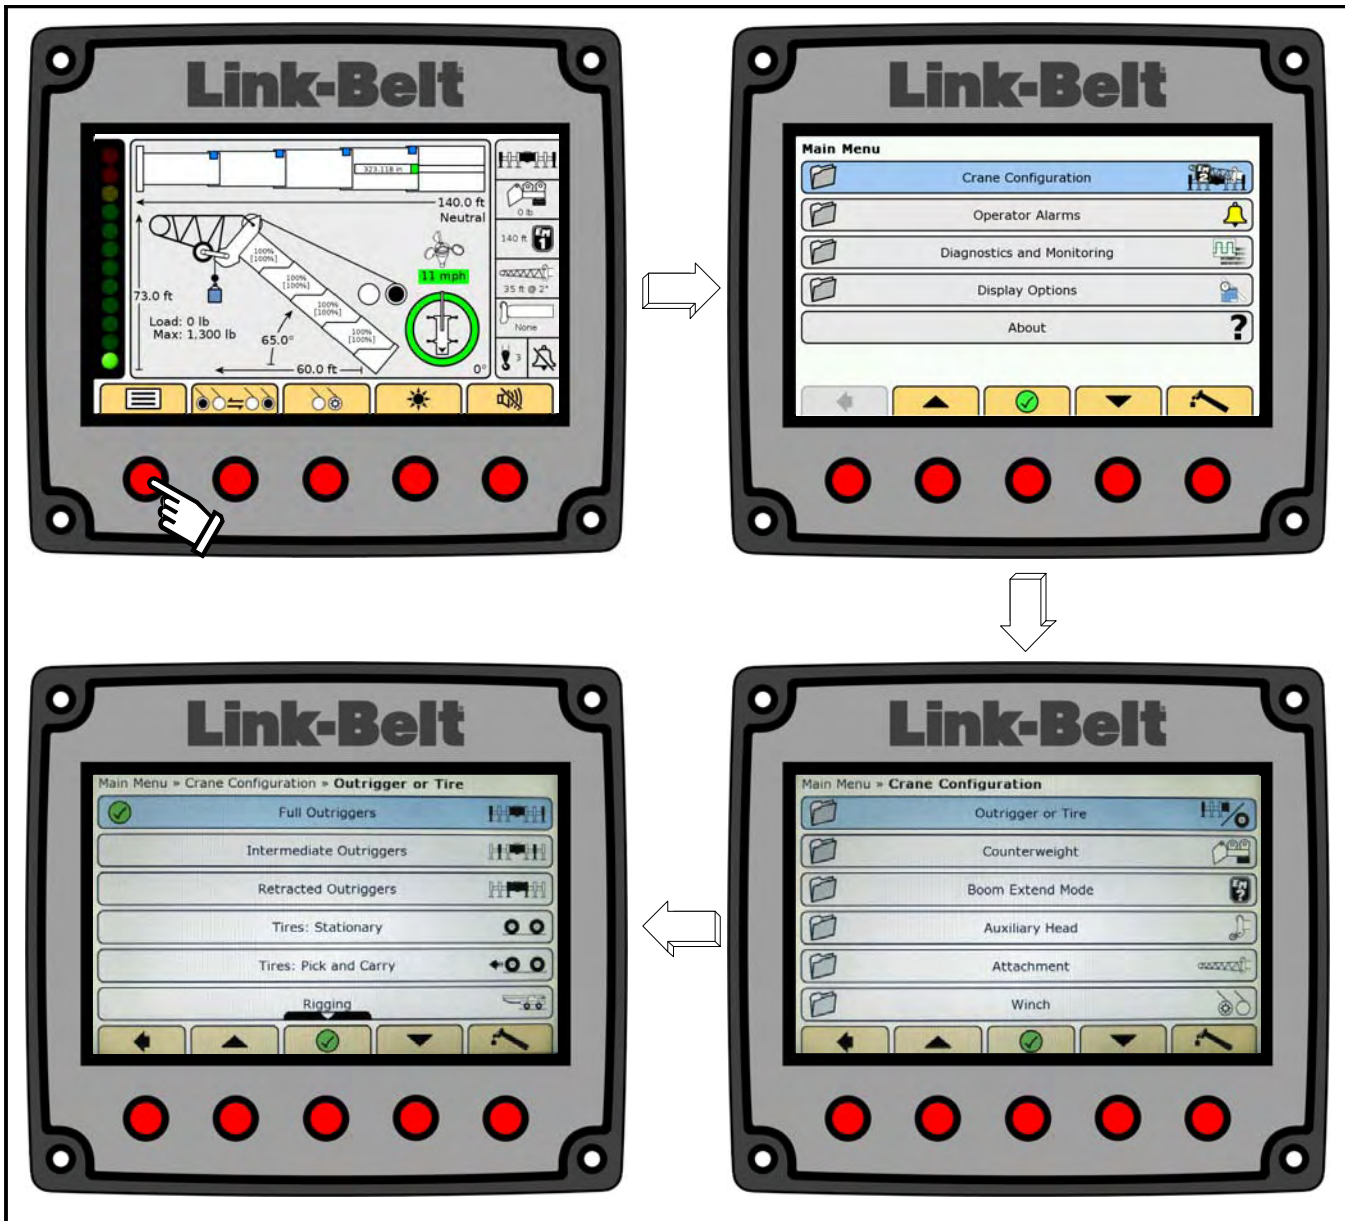

Figure 1-77
3. Scroll to Outrigger or Tire, and press the OK/Enter button . Refer to Figure 1-77.